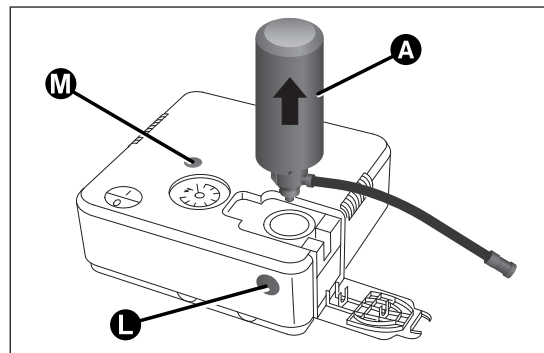

fig. 108
- ☐ If the spray bottle A fig. 108 is connected to the compressor, you need to press the release button L to remove it;